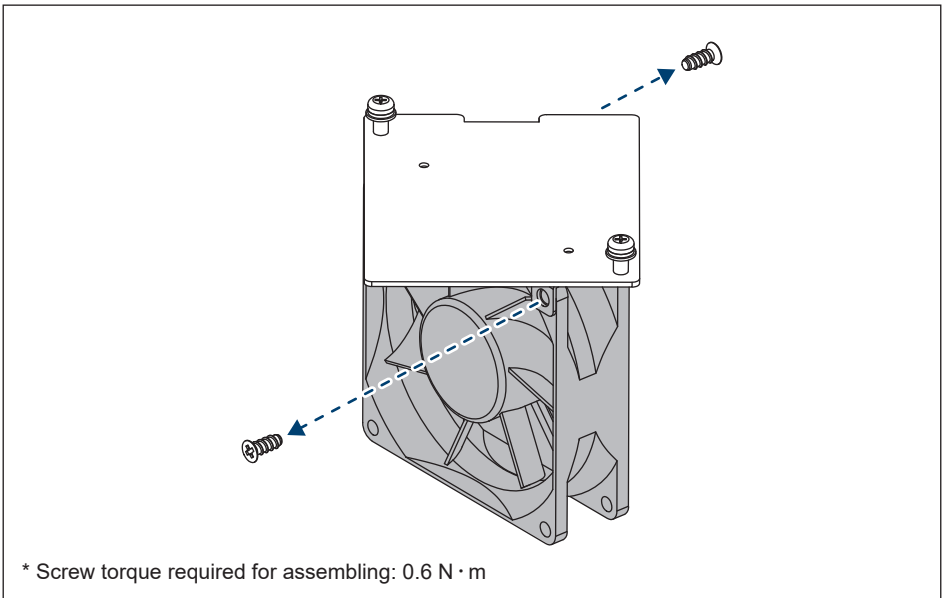

Figure 5-14: Replace with a new fan
- (4) Lift the entire fan assembly. (**Figure 5-14**)
- (5) Clean assembly or replace with a new fan.
- (6) Reassemble using the tightening torque of recommended.